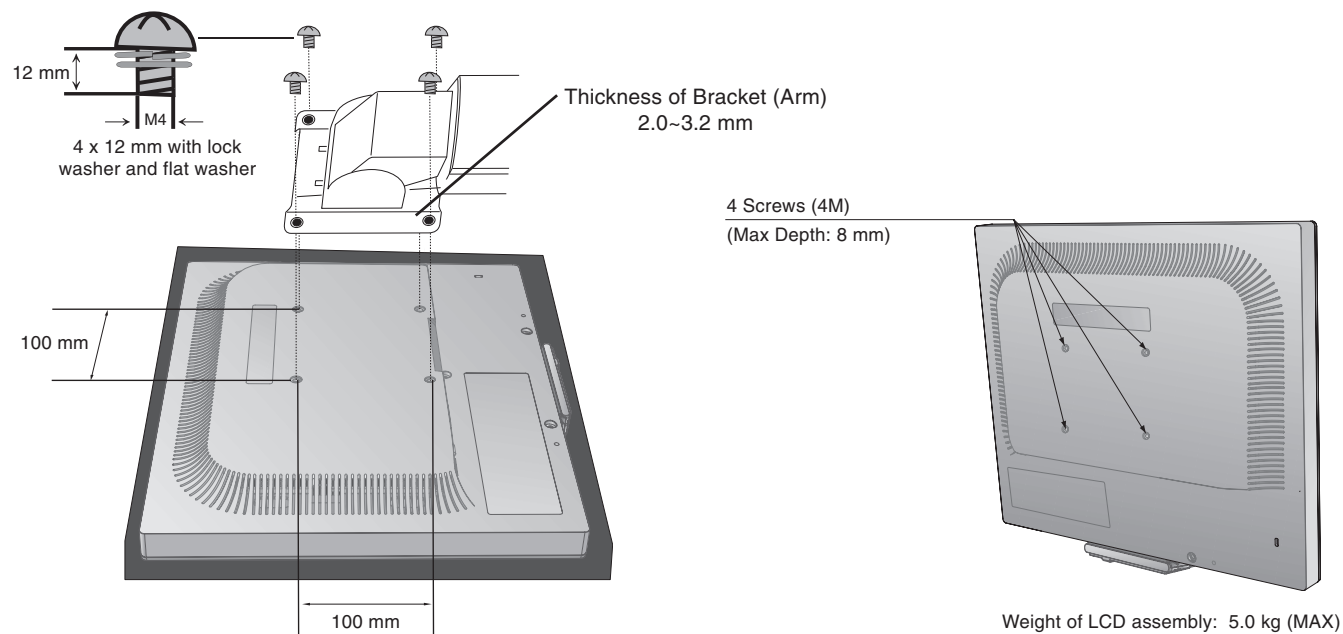

Figure F.1
2. Use 4 screws and attach the arm to the monitor (**Figure F.1**).